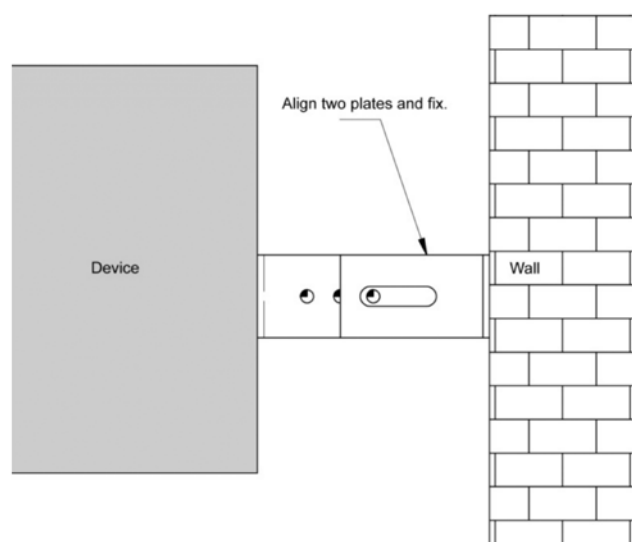

Figure 2. Top view
2. Lift the drawer (1) up, so that both sides of the drawer out of the front buckle (4), you can take out the drawer. (See Figure 2)
3. Install drawers in the opposite way. Pay attention to the buckle (4) in correct place during installation.